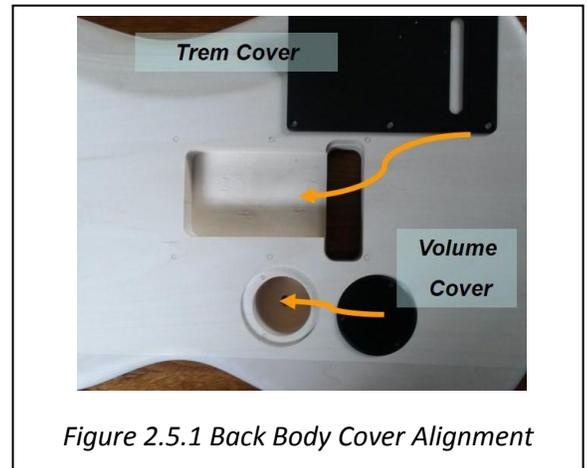

Figure 2.5.1 Back Body Cover Alignment
2.5 Fit check of the back covers (Fig 2.5.1)